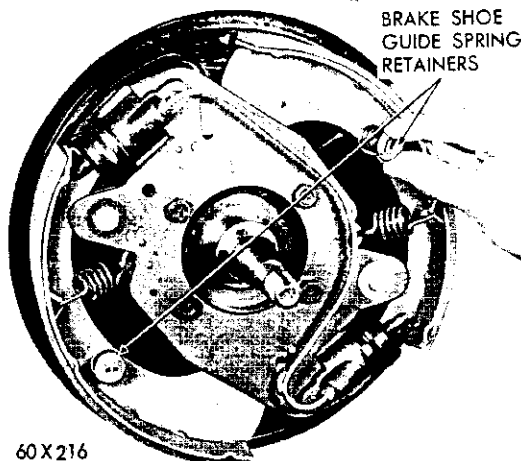

Fig. 8—Removing the Brake Shoe Guide Spring, Rod and Retainer
(4) Turn the brake shoe guide retainer $\frac{1}{4}$ turn, then the retainer guide spring and rod, as shown in Figure 8.
(4) Turn the brake shoe guide retainer $\frac{1}{4}$ turn, then remove the retainer and guide rod (refer to Fig. 8).
(4) Check the tension of the brake shoe return springs. The spring tension can be checked by hooking a scale at the toe of the shoe and pulling in the direction of piston movement. The scale should read 45 to 55 foot-pounds at the instant the toe of the brake shoe moves. A dial indicator may be used to indicate the shoe movement.
(5) Install the guide rod and the retainers (Fig. 8). Be sure the positioning lip of the guide rod is positioned properly in the spring retainer.
(6) Install the drum wheel and tire assembly after backing off the adjusting cams. Adjust the front wheel bearings as described in "Front Suspension", Group 2.
(7) Adjust the brakes.
(4) Install the guide rod retainers (Fig. 8). Be sure the positioning lip of the guide rod slides into the slot of the spring retainer.
(5) Measure the tension of the brake shoe return springs. The spring tension can be measured by hooking a scale at the toe of the shoe and pulling in the direction of piston movement. The scale should read 45 to 50 foot-pounds at the instant the toe of the shoe moves. A dial indicator may be used to indicate the shoe movement.
(6) Install the drum, wheel and tire assembly, after backing off the adjusting cams.